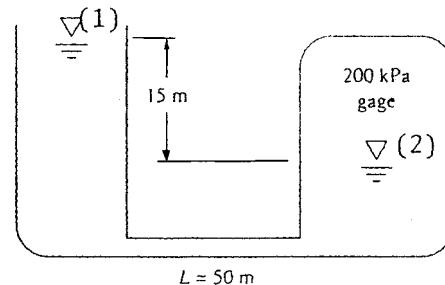

Fig. P6.78
**6.78** In Fig. P6.78 the connecting pipe is commercial steel 6 cm in diameter. Estimate the flow rate, in  $\text{m}^3/\text{h}$ , if the fluid is water at 20°C. Which way is the flow?
**Solution:** For water, take  $\rho = 998 \text{ kg/m}^3$  and  $\mu = 0.001 \text{ kg/m}\cdot\text{s}$ . For commercial steel, take  $\epsilon \approx 0.046 \text{ mm}$ , hence  $\epsilon/d = 0.046/60 \approx 0.000767$ . With  $p_1$ ,  $V_1$ , and  $V_2$  all  $\approx 0$ , the energy equation between surfaces (1) and (2) yields